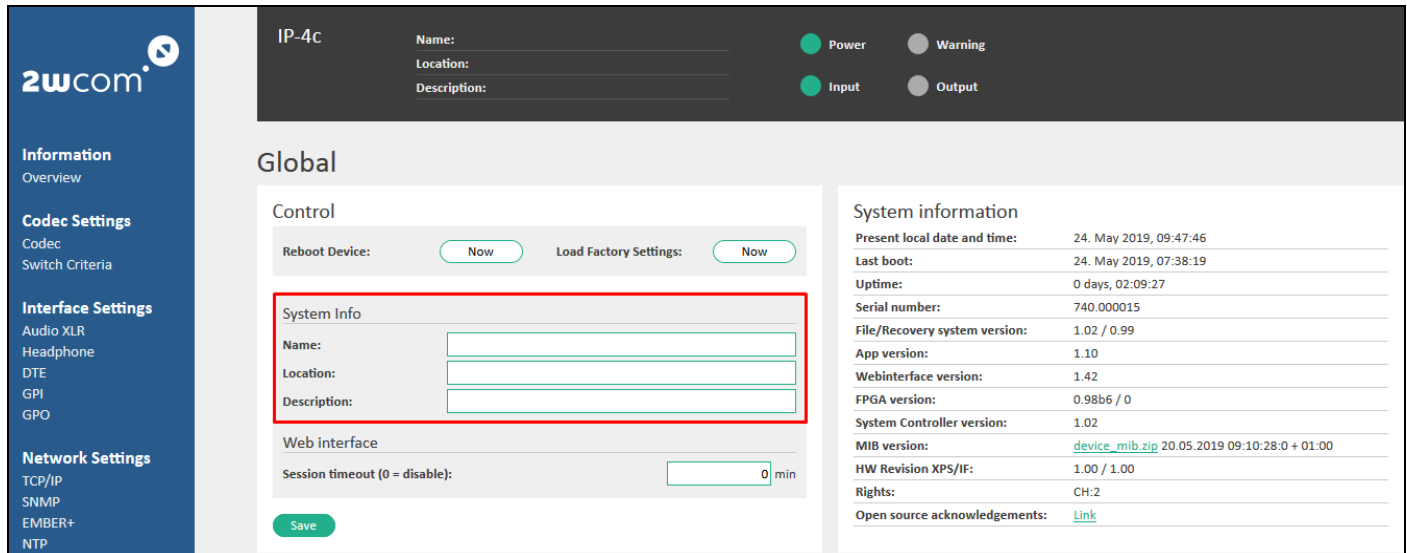

Figure 87: Global System Settings – System parameter
2. Enter the identification information of the device in the **System parameter** field (see Figure 87).